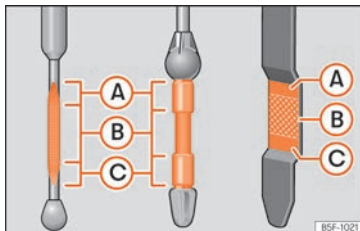

Fig. 230 Engine oil dipstick.
- Then pull it out once more and check the oil level »» **Fig. 230**. Top up with engine oil if necessary.
- When the oil level reaches at least zone »» **Fig. 230 (B)**, unscrew the engine oil filler cap carefully »» **ⓘ**.
If the oil level is above area »» **Fig. 230 (A)**, do not start the engine. This could result in damage to the engine and catalytic converter. Contact a specialised workshop.
The oil level must never be above zone »» **Fig. 230 (A)**. Otherwise oil can be drawn in through the crankcase breather and leak into the atmosphere via the exhaust system.